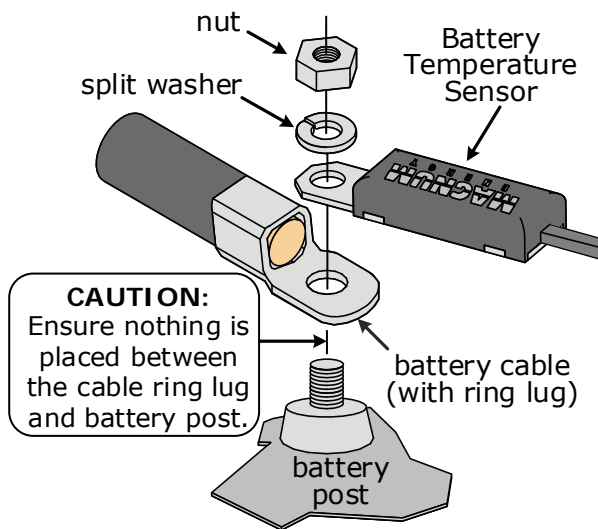

Figure 2-5, Battery Hardware Installation
Refer to Figures 2-5 and 2-6 to connect the DC cables and to stack the hardware correctly. Tighten the terminal connections from 10 to 12 ft lbf (13.6 to 16.3 N-m).
1. Attach the ring terminal end of the Battery Temperature Sensor to the negative battery terminal; see Figure 2-5 for proper connection to the battery terminal.
7. Ensure the DC wire connections (on the batteries, inverter, and DC circuit breaker/fuse lugs) are flush on the surface of the DC terminals, and the hardware (lock washer and nut) used to hold these connections are stacked correctly (see Figures 2-5 and 2-6). Verify all DC connections are torqued from 10 to 12 ft lbf (13.6 to 16.3 N-m).